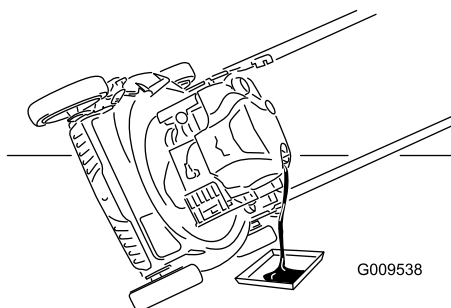

Figure 26
4. Tip the machine onto its side with the air filter up to drain the used oil out through the oil-fill tube (Figure 26).